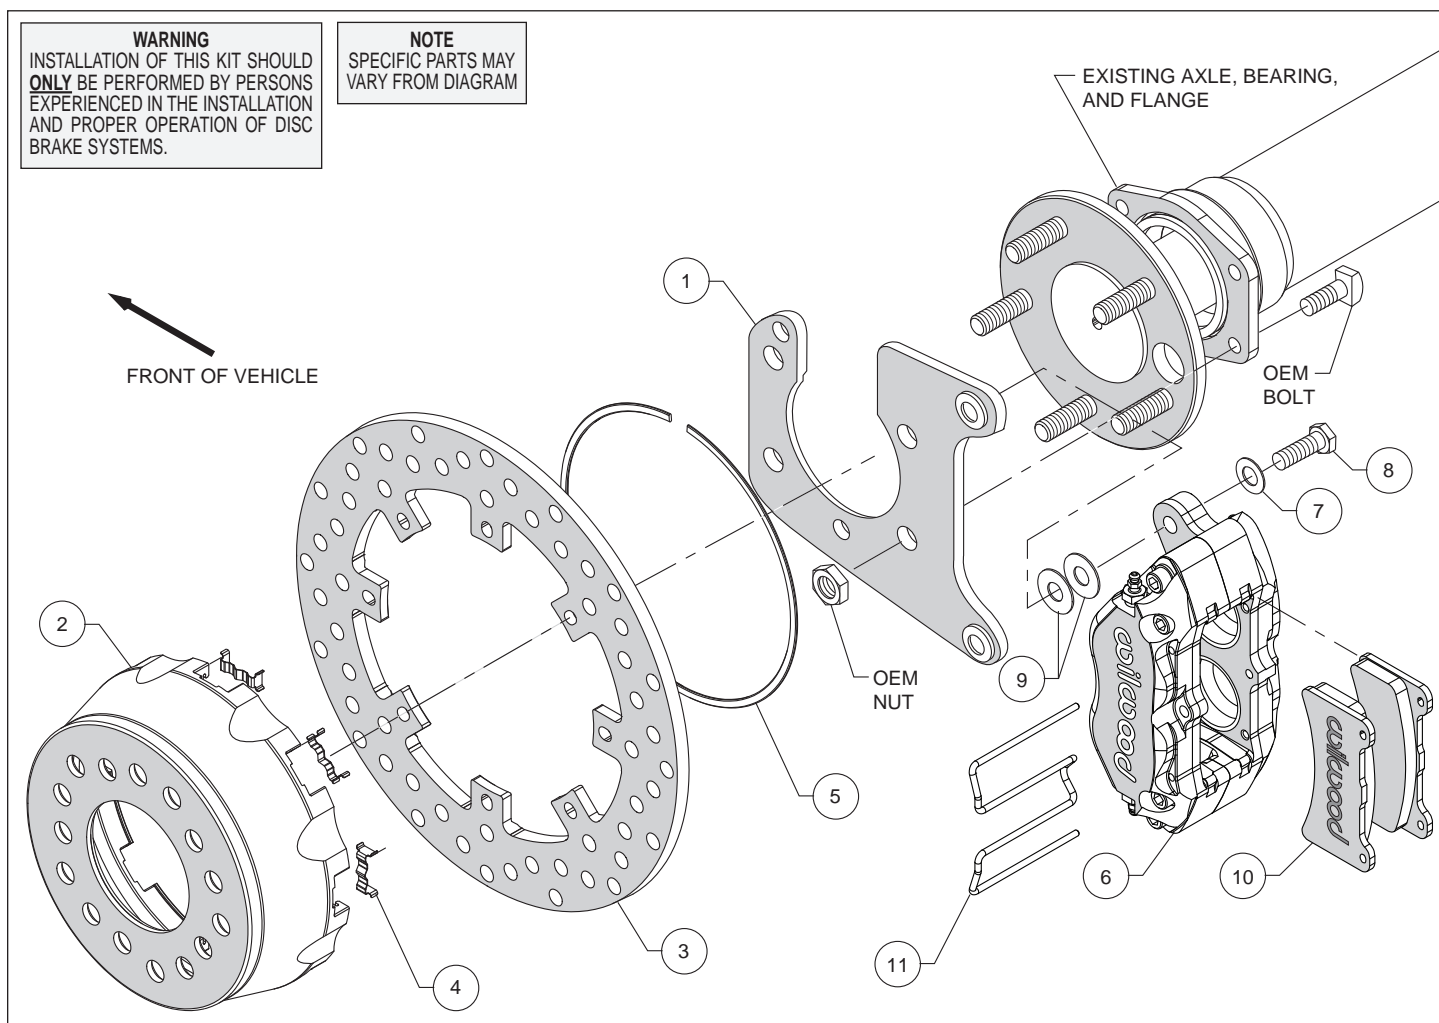

Figure 1. Typical Installation Configuration
Assembly Instructions (numbers in parenthesis refer to the parts list and Figure 1 on the preceding pages): **CAUTION:** All mounting bolts must fully engage clinch nuts. Be sure to check that all bolts are either flush or protruding through flanged side of clinch nut after shimming, Figure 5.
- Install the caliper mounting bracket (1), with the slot for the axle pointing upward, to the housing flange using the OEM bolts and nuts, as shown in Figure 1 and Photo 1. Ensure that the heads of the clinch nuts are facing outboard, Photo 1. Apply red *Loctite*® 271 to the OEM bolt threads and torque to OEM specifications.
- Insert the dynamic mount wear plates (4) into the slots in the hat (2) making sure the tabs snap in place, Photo 2. Orient the rotor (3) as shown in Figure 1 and Photo 3, with the flush mount tab side facing the hat. Attach the rotor to the hat using snap ring (5) by pushing down on the rotor and installing the ring into the groove in the hat, as shown in Photo 4. Ensure that the ring is fully engaged in the groove.
- Align the correct hole pattern in the hat (2) with the axle stud pattern and slide the hat/rotor assembly onto the axle hub. **NOTE:** The hat must fit flush against the axle flange or excessive rotor run out may result. Install three lug nuts (finger tight) to keep the hat/rotor in place while continuing with the installation. **NOTE:** The hats included in this brake kit are drilled for .68" diameter wheel studs.
- NOTE:** Please reference the caution statement at the beginning of the assembly instructions. Mount one caliper (6) onto the mounting bracket (1) using bolts (8) and washers (7), as shown in Figure 1. Initially place two .035" thick shims (9) on each bolt between the caliper and the bracket, Photo 5. Temporarily tighten the mounting bolts and view the rotor (3) through the top opening of caliper. The rotor should be centered in the caliper, Photo 6. If not, adjust the caliper by adding or subtracting shims between the bracket and the caliper. Always use the same amount of shims on each of the two mounting bolts. **NOTE:** The end of each bolt must be flush with or slightly protruding from the head of the clinch nut. If necessary, place spare shims between washer and caliper mounting ear to achieve the proper clinch nut engagement, as shown in Figure 5. Once the caliper alignment and clinch nut engagement are correct, remove the bolts one at a time, apply red *Loctite*® 271 to the threads, and torque to